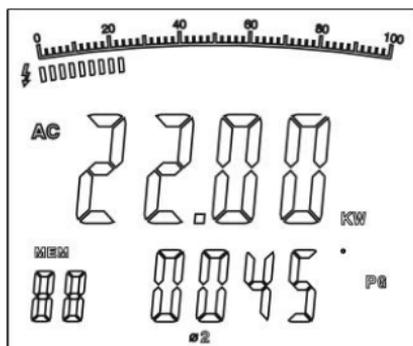

Figure 9
2. After record the current power measurement value of the first phase, then press **SEL** to choose $\text{Ø}2$, The double display shows the value of active power kW and PG of the second phase **2**. as figure 9